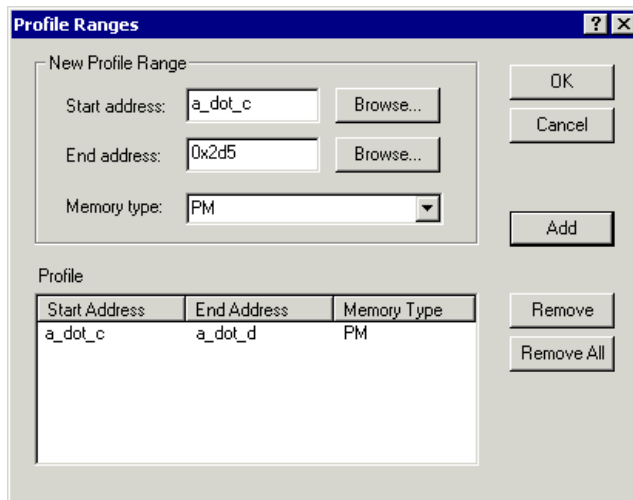

Figure 3-8. Profile Ranges Dialog Box
2. From the Tools menu, choose Profile. Then choose Add/Remove Profile Ranges to open the Profile Ranges dialog box, shown in Figure 3-8.